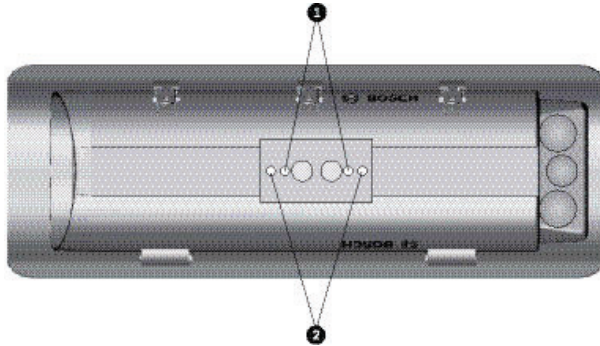

Figure 5.1 Thread holes for mounting with rear connections, or for feed through wiring
2. The outermost set of 1/4-20 threaded holes are for mounting to feed-through mounts, and the innermost 1/4-20 holes are for mounting to all other mounts and pan/tilts. See *Figure 5.1*.